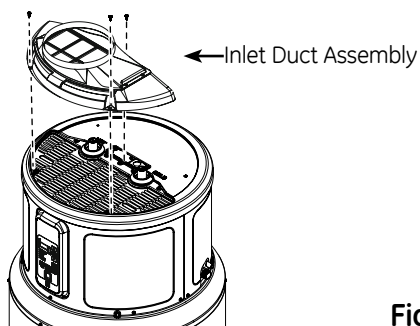

Figure 5
3. Orient the inlet duct assembly to the top of the water heater by aligning the holes as shown in Figure 5. Use the three screws from Step 2 #1 to secure the Inlet Duct Assembly to the water heater.